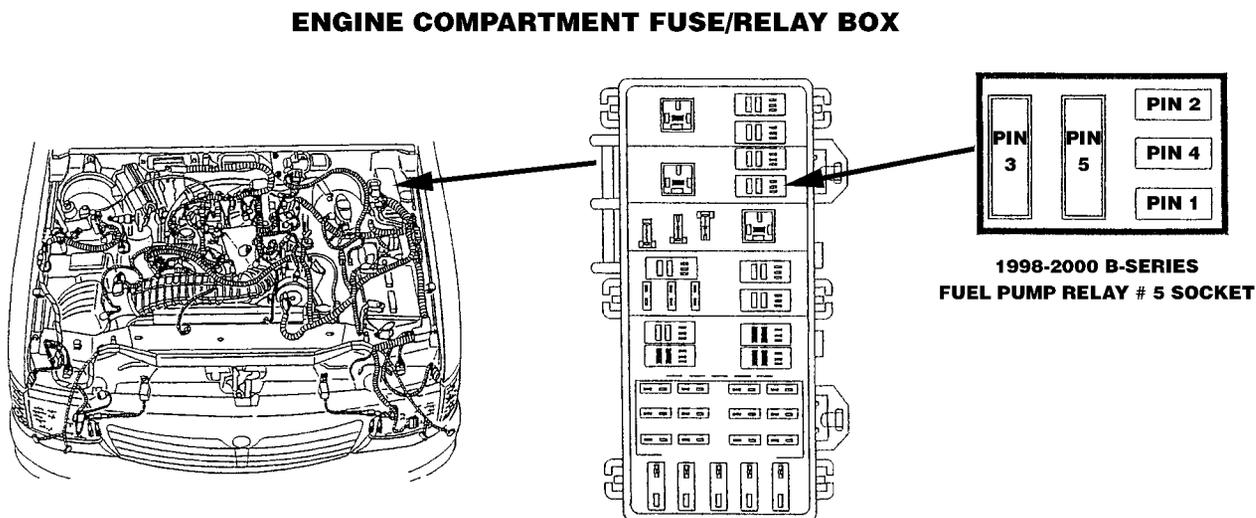

Figure MA014-5
3. Locate engine compartment fuse/relay box at left rear corner of the engine compartment near the driver side hood hinge. Refer to the fuse and relay box diagram (Figure MA014-5).